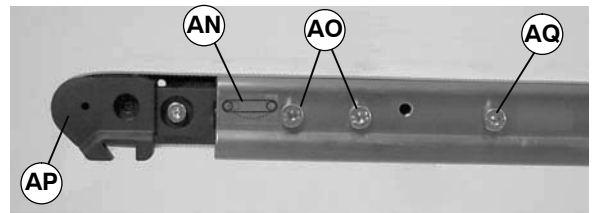

Figure 22
7. Retract idler spindle assembly (AP of Figure 22) by pushing in on it or by turning M6 pinion screw (AQ of Figures 22 and 23) clockwise.
11. Retract idler spindle assembly (AP of Figure 22) by pushing in on it or by turning M6 pinion screw (AQ of Figures 22 and 23) clockwise.